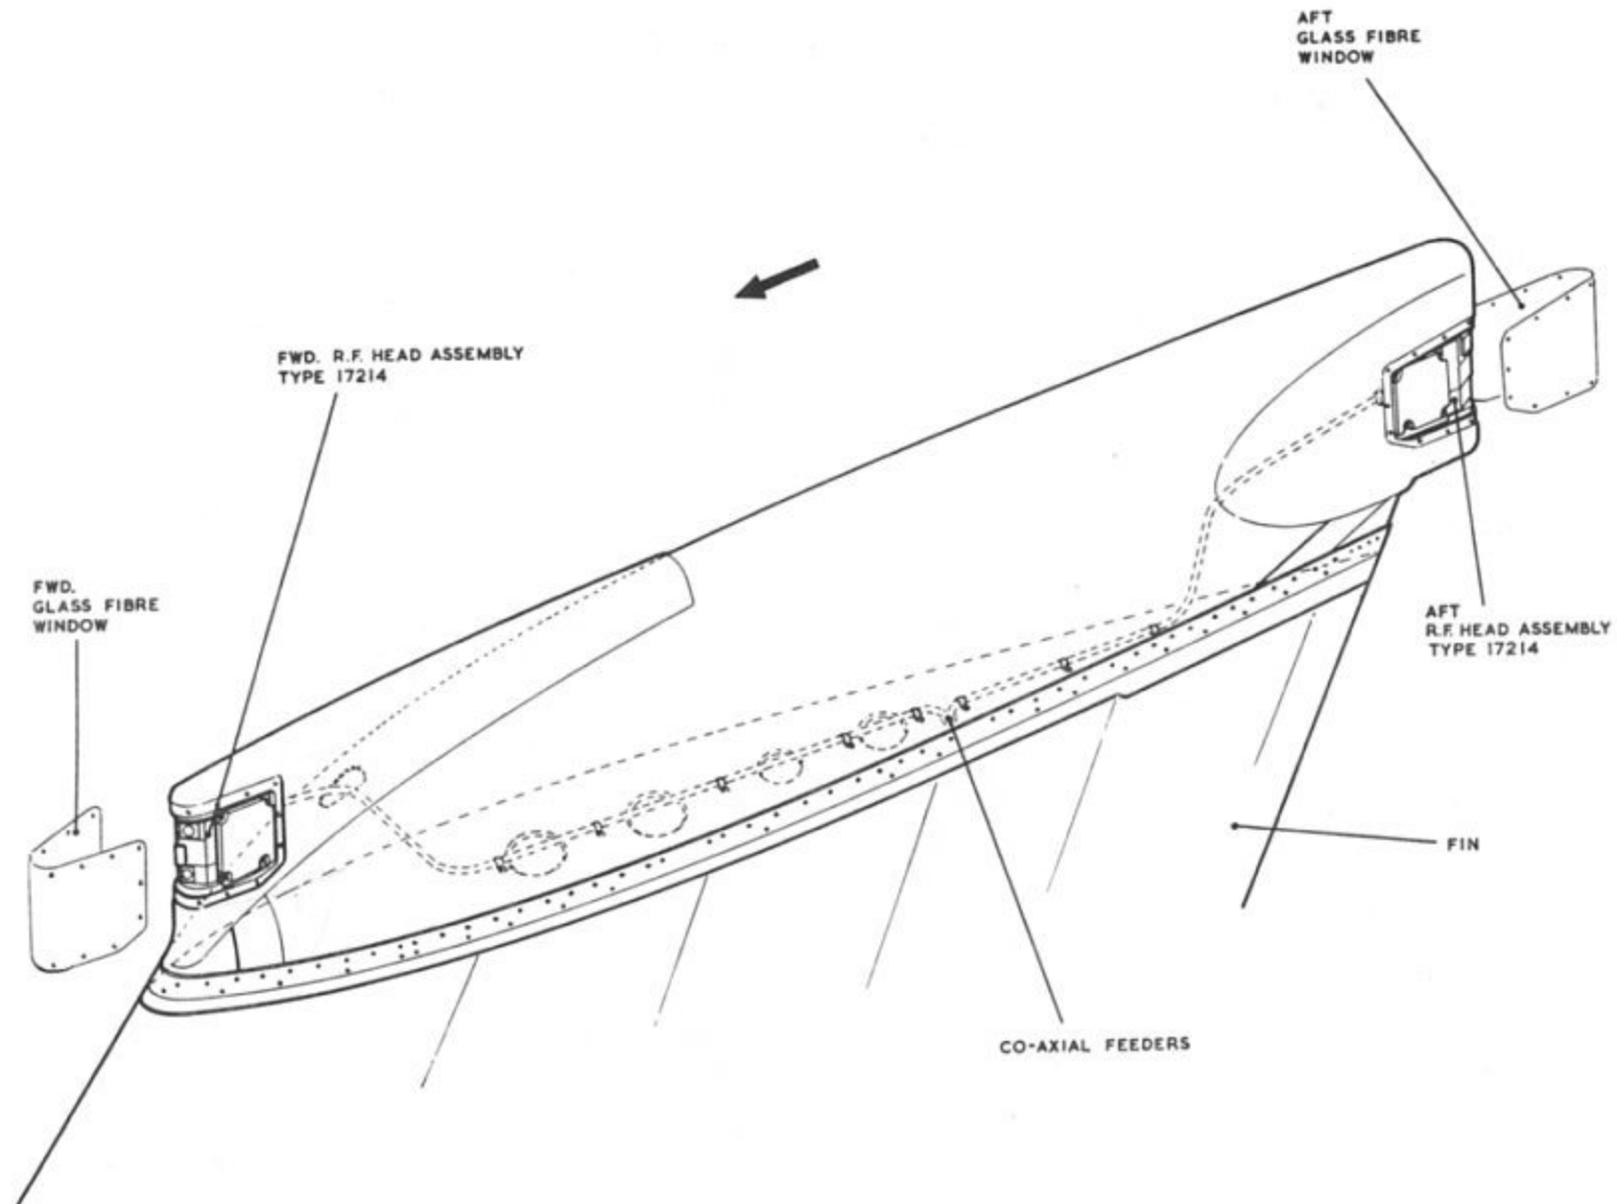

Fig.4 RF Heads in fin cap
11. There are two RF head box assemblies fitted in the fin cap (fig.4). One faces forward and the other faces aft. Each box assembly contains six aerials in pairs, one pair to each of the three frequency bands. Video signals at the output of the RF head assemblies are conveyed to the radio receiver via co-axial cables. Radio absorbent material (RAM) is bonded to the box assemblies. Provision is made to prevent ingress of moisture and all co-axial connections are hermetically sealed. A desiccant pack is included in the box assembly.